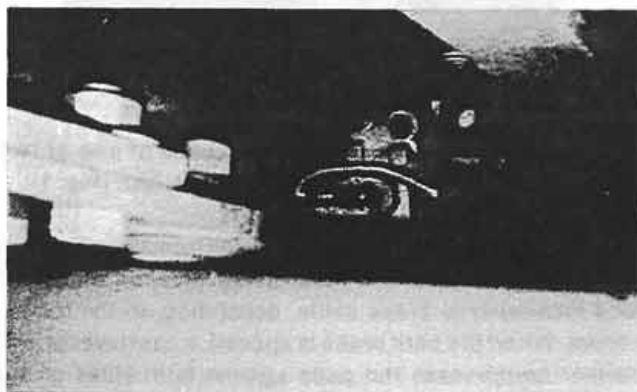

Figure 4:
4. Remove the cotter pins from the brake slide rods and withdraw them from their bores (Fig. 4).